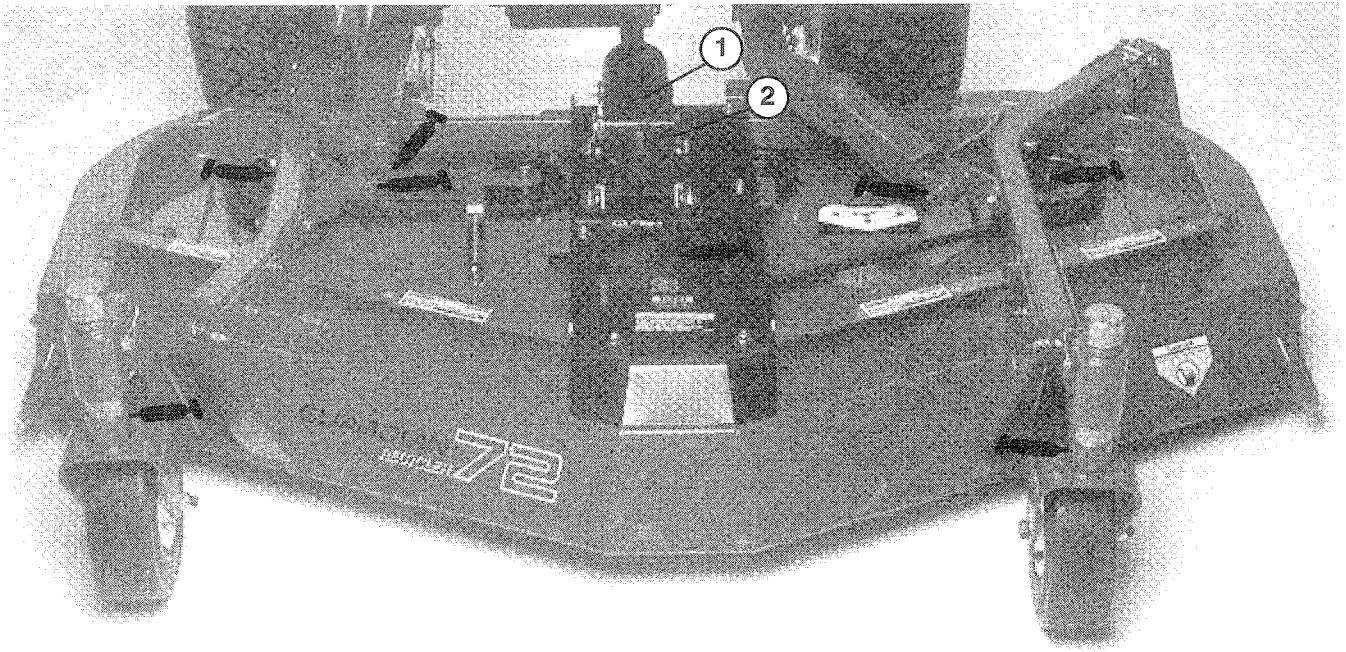

Figure 16
GREASE BEARINGS, BUSHINGS AND GEAR BOX (Fig. 16)
1. The cutting unit has bearings and bushings that must be lubricated, and these lubrication points are: front castor shaft bushings (2), blade spindle bearings (3), idler arm pivot and right and left push arm ball joints (Fig. 16).